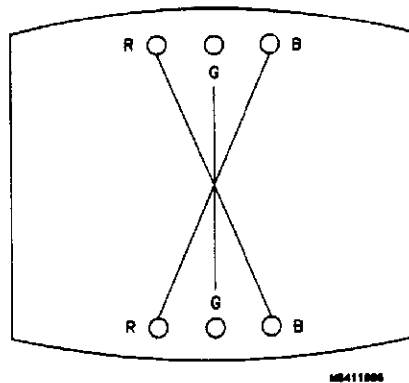

Figure 4-20. Y BOW CROSS Adjustment.
3. Adjust Y BOW CROSS (RV804) on bottom PC board to eliminate red, green, and blue orthogonal mis-alignment at top and bottom of center vertical line. See figure 4-20.